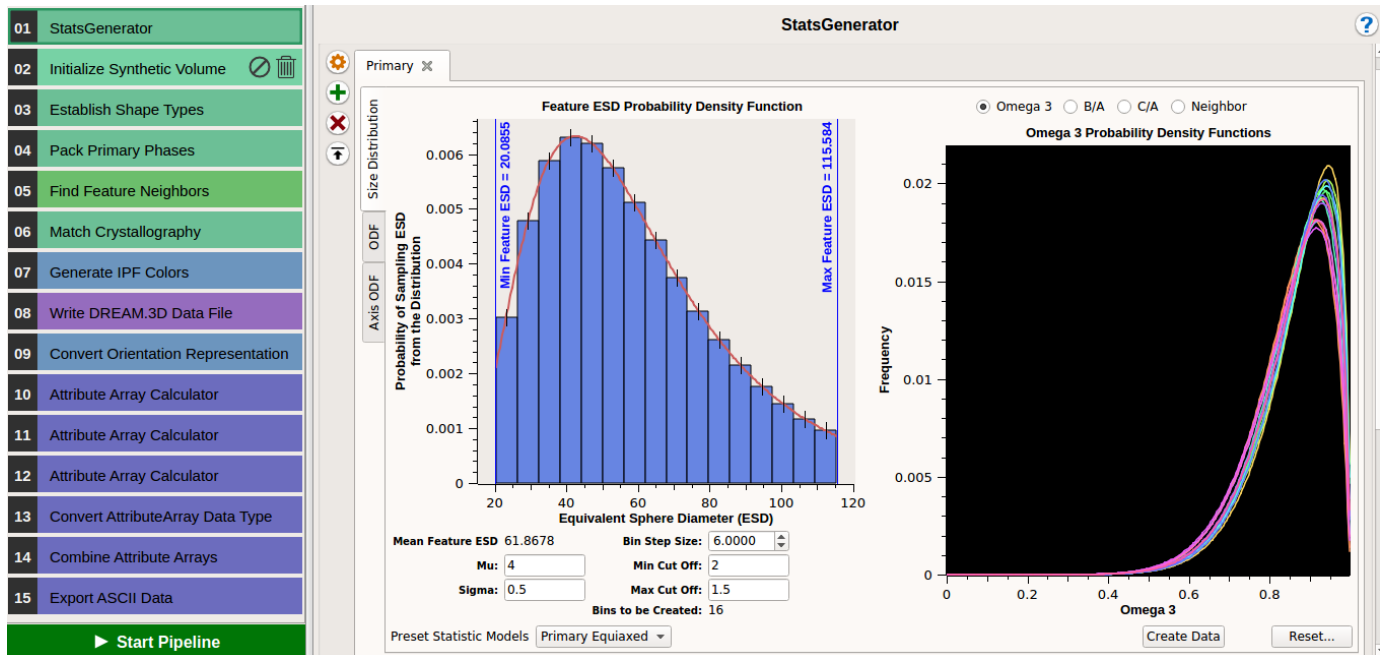

Figure 2: Size distribution
2. Ensure that the tab displaying **Size distribution** is currently active or it can be made so by just clicking on it. The grain size distribution should be selected in a way that it can mimic that of the real specimen. In the present case, the selected values are - Mu = 4, Sigma = 0.5, Bin Step Size = 6.0000, Min Cut Off = 2, Max Cut Off = 1.5(Fig. 2). This will result in an estimated 16 feature bins. For the **Preset Statistic models** choose **Primary Equiaxed** because we will be working with equiaxed grains. Then click on the **Create Data** button to update the statistics for the new set of parameters.